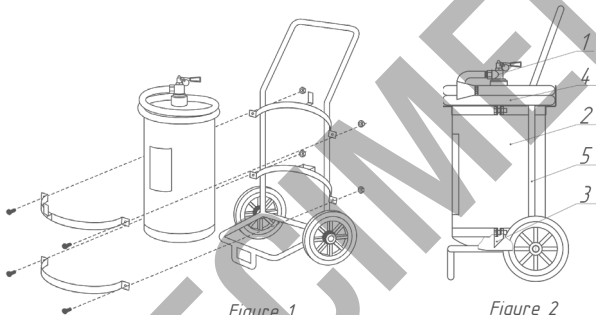

Figure 1
4.1 Fire extinguisher design is shown in the Figure 1.
4.2 The fire extinguisher is disassembled from the trolley (for repair etc.) by loosening the bolts and nuts securing the clamps. (see Figure 1)